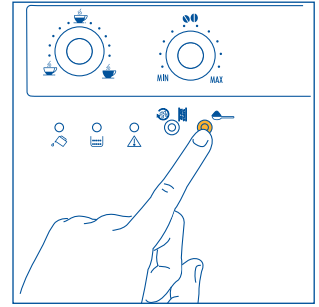

Fig. 18
1. Press the  button to select the ground coffee function (Fig. 18). The ground coffee light will illuminate indicating the function has been selected and the coffee grinder has been disabled.